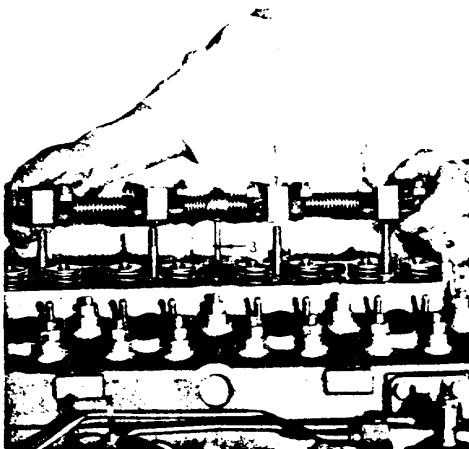

*Fig. E.1.
11. Disconnect and remove the high pressure fuel pipes from the fuel injection pump and atomisers. Blank off the exposed ports. Release and remove the nuts securing the atomisers and carefully extract the atomisers from the cylinder head (see Fig. E.1).
16. Release and remove the cylinder head nuts or setscrews in the reverse order of the tightening sequence shown in Fig. E.1).